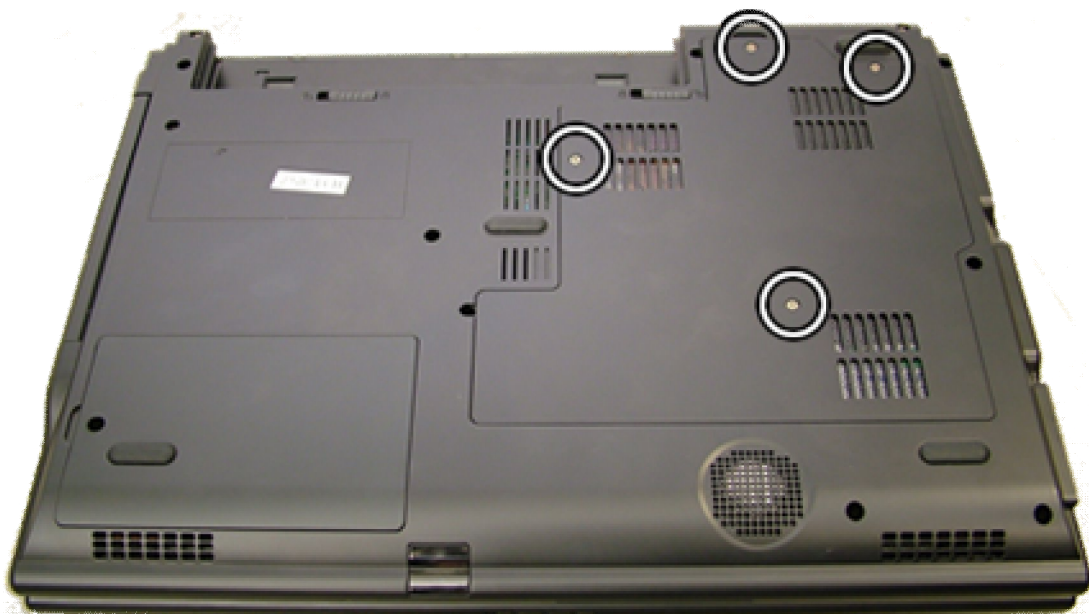

Fig. 9 *The bottom base screws.*
2. Remove the 4 screws of the cover on the bottom base (see Fig 9).